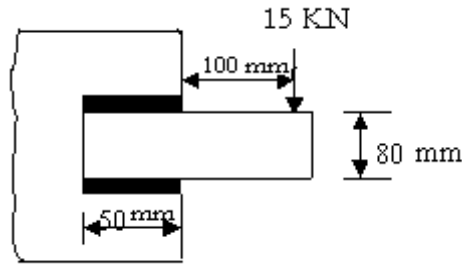

Figure 2:
5. A bracket carrying a load of 15 KN is to be welded as shown in Figure2. Find the size of weld required if the allowable shear stress is not to exceed 80 MPa.